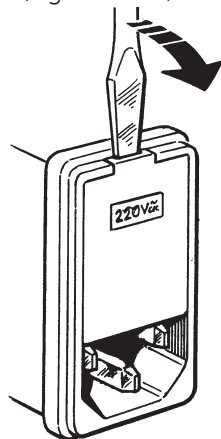

Fig 5. Opening the fuse/voltage selector cover. When using the screwdriver to open the cover, insert it at the top centre and apply pressure.
3. Open the fuse/voltage selector cover with a thin screwdriver or the key provided (Figs 5 and 6).